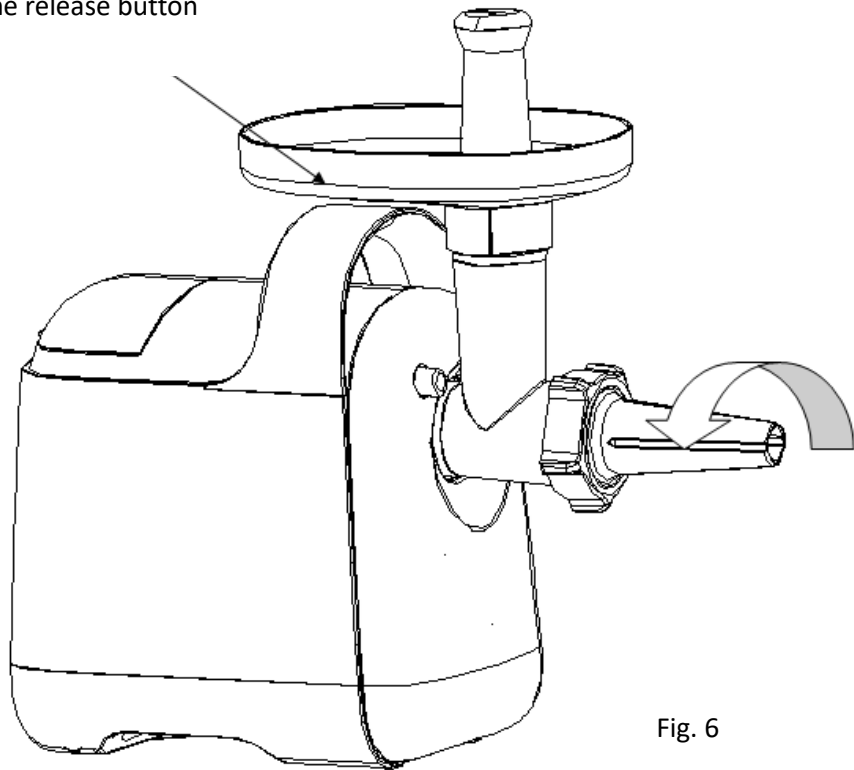

Fig. 6
2. Assemble the ream meat tube into the main machine. Press the Release button with thumb one hand (see arrow fig.6), and hold the ream meat tube with the other hand, insert it into the hole of the main machine and turn it anti-clockwise until it cannot move any longer. Release the Release button, the ream meat tube is fixed on the main machine.